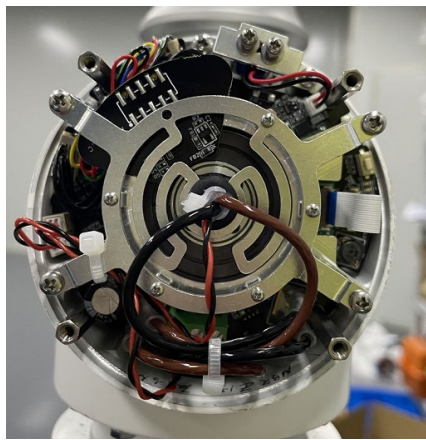

Figure 3-12 Reconnect the wires
- Reconnect the wires and tie them as shown in Figure 3-12: